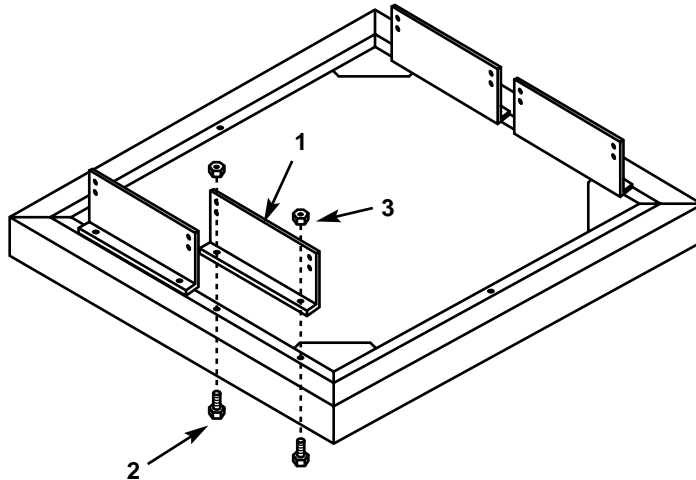

Figure 2. Attaching support plates to the base.
1. Attach the included support plates (item 1) to the cabinet base. Make sure that the flange is oriented as shown in Figure 2, and attach it using the included $\frac{1}{4}$ -20 x $\frac{1}{2}$ " hexbolts (item 2) and $\frac{1}{4}$ -20 hexnuts (item 3). Tighten the hardware securely. Repeat for remaining plates.